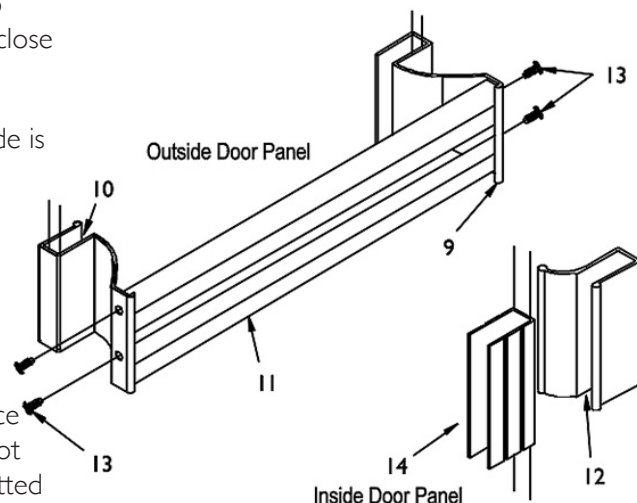

FIGURE 3
10. To set slider glass in place, hold inside slider panel (16) inside of tub or shower pan, insert rollers up into header and lower into place. Next, insert lower end of outside slider (17) in front of inside slider by pushing lower end far enough in, to allow clearance on inside edge of tub or pan. Avoid roller bracket to roller bracket contact while lifting panel into place. The outside slider will close against the jamb opposite the shower head.
11. Place center guide (7) to center position on sill. Make sure the center guide is hooked into the slot position on the sill then snap center guide to sill.
12. Close panels and adjust to align the vertical edge of panels with jamb and post. Using a 1/4" box-end wrench, loosen the screws on the rollers, but don't remove completely. When screws are loose, adjust panel by sliding the screw in the slot. NOTE: When screws are loose be sure to support panel so it does not fall and break. Adjust the inside slider as low as possible to reduce the gap between bottom of slider and sill taking care that the glass does not drag on the track or center guide. Adjust for bowed glass by using the slotted hole in the jamb. Secure bumpers to the jambs using 6-32 x 1/2" screw (5). A 7/64" hole needs to be drilled into the 180° post (19) to attach the ZV-924 (4).
13. Set handle vinyl channel (14) in place over edge of outside glass panel (17) with bottom vinyl in line with bottom of bumper. Tap towel bar brackets (9 & 10) in place. Bracket with pull should be to jamb side of slider opposite shower head. Assemble towel bars (11) to bracket using #6 x 3/8" SMS (13). (See Figure 3).
14. Set handle in vinyl in place over edge of inside glass panel (16) with bottom of vinyl in line with bottom of bumper edge facing the wall jamb. Tap inside door pull (12) in place. NOTE: Large portion of pull to inside of slider.